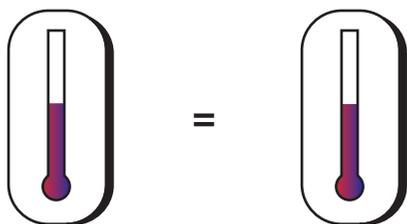

FIGURE 1-5 Heat travels from higher temperature (higher energy level), to lower temperature (lower energy level).
- Heat always flows from hot to cold. (From higher level of energy to lower level of energy.) ● **SEE FIGURE 1-5.**